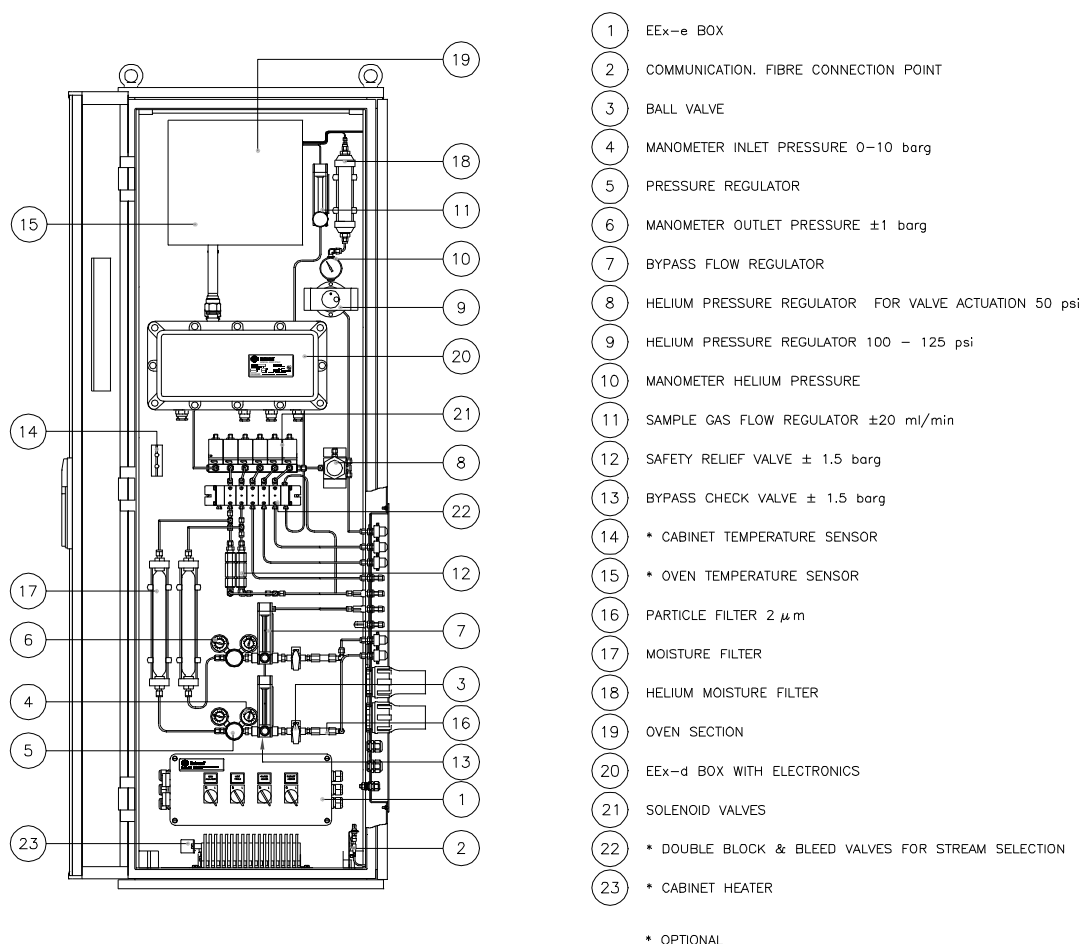

Figure 6-1 Analyser items identification
The system exist of several double block and bleed valves (item 22 Figure 6-1) which are pneumatically actuated by the solenoid valves (item 21) controlled by the analyser electronics.
At the outlet of the sample selection system a flow meter with regulator (item 11 Figure 6-1) indicates the sample gas flow which is flowing through the sample loop in the oven. This flow should be adjusted to approximately 20 ml/min.
The carrier gas for the ENCAL 2000 PGC is Helium. The Helium's supply pressure to the analyser is 10-12 barg. The required column "head pressure" is approximately 8 barg. The ENCAL's internal Helium pressure regulator (item 9, Figure 6-1) is normally set to approximately 120 PSI (approx. 8.5 barg). The outlet of the pressure regulator is connected to a moisture filter that will remove any unexpected moisture from the Helium gas.